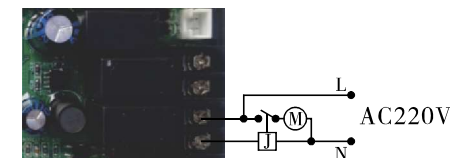

Figure3-7
G. If the working current is more than 5A, the wiring of water pump refers to Figure 3-7 (Be suitable for iron and manganese removal device).